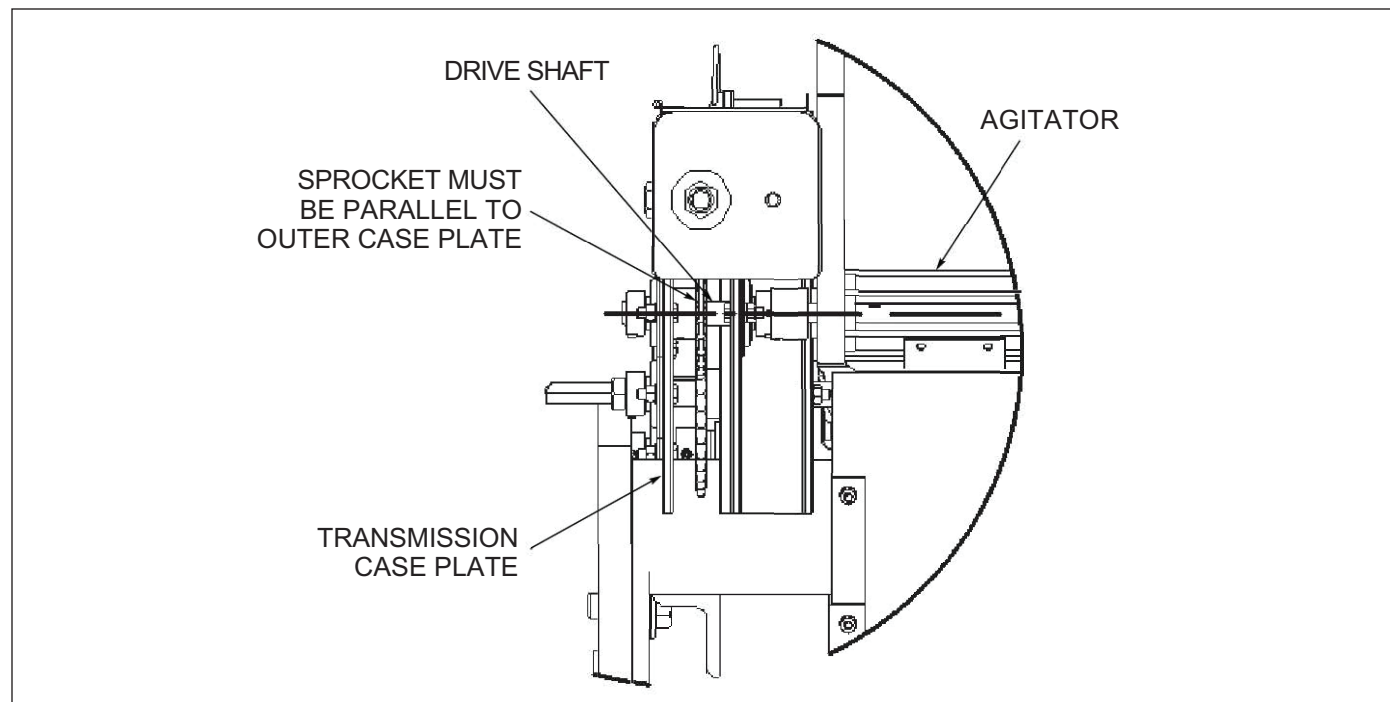

Figure 5-16: Transmission Shaft is Square in Transmission
- Check that the Transmission Shaft that drives the Brome Box is square in the transmission (sprocket must be parallel with the outer case plate) and aligned with the Brome Box Shaft. Loosen bearings and adjust if necessary. **See Figure 5-16.**